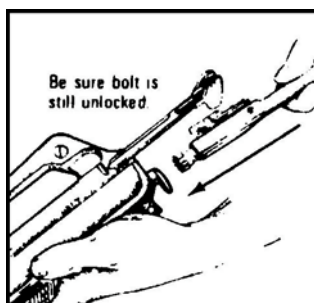

Figure 33. Placing the bolt carrier.
- j. Slide the bolt carrier into the upper receiver (Figure 33).